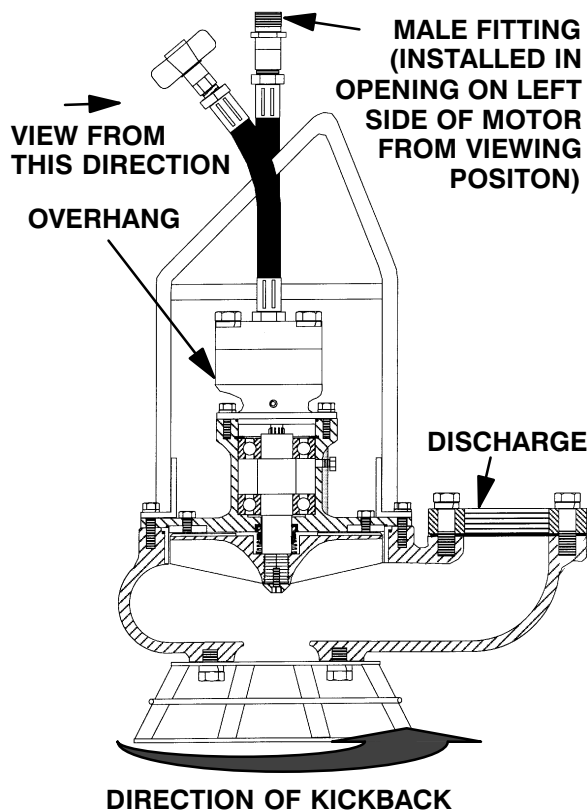

Figure 2. Hydraulic Motor And Hose Positioning/Kickback Direction
1. If the wear ring (20) was removed, lubricate a new O-ring (19) and install it in the pump casing. Press a new wear ring into the volute until fully seated. The wear ring **must** seat squarely in the pump casing or binding and excessive wear will occur.
2. Position the rotating portion of the pump in the pump casing. For proper operation, the rotating portion of the pump must be positioned with the “overhang” on the hydraulic motor directed **away** from the pump discharge (see Figure 2). Use caution not to damage the O-ring (13) and to make sure it is squarely seated.
1. If removed, make sure the hydraulic motor is positioned as shown in Figure 2 with the “overhang” directed **away** from the pump discharge. Pigtail hoses (7 and 8) must also be installed in the hydraulic motor as shown in Figure 2. **This is critical to ensure proper rotation and prevent damage to the pump.** The hose with the male fitting **must** be positioned in the opening to the left (may be stamped “PRESS”) when viewing the pump as shown in the figure.
The hydraulic motor and hoses must be positioned as shown in Figure 2; otherwise, severe damage to the pump will occur.